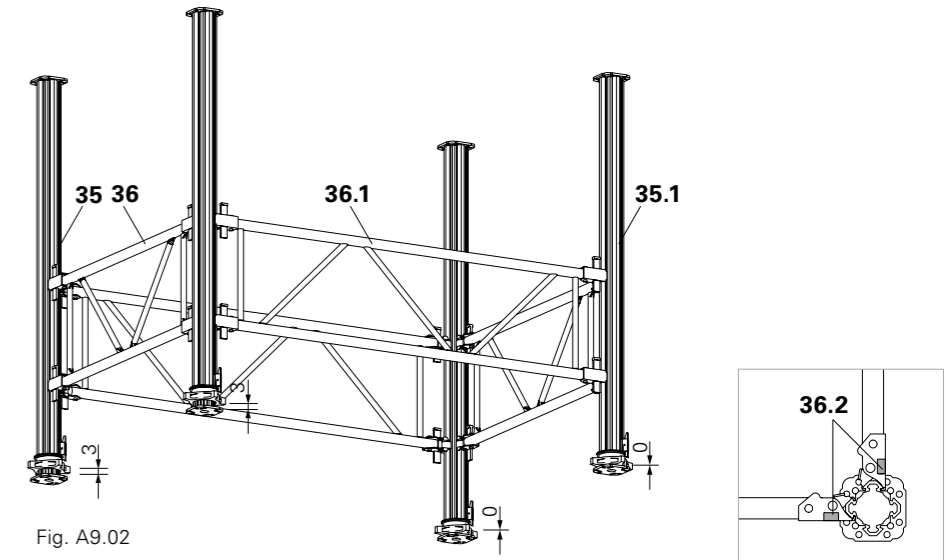

Fig. A9.02
1. Spindle out the MULTIPROP Props MP (35) 3 cm on a narrow side. The two props opposite (35.1) are not spindled out. As a result, the height difference resulting from the different installations of the main beam is compensated. The exact height adjustment takes place later.
2. Four MULTIPROP Props are placed in a 1.50 m x 2.25 m grid with the spindles (inner tube) downwards and formed into a base frame using MULTIPROP MRK 150 (36) and MRK 225 (36.1) Frames. (Fig. A9.02) Mount the frame at the same level above the slab. Locking wedges (36.2) are facing outwards.
3. Attach two Propheads SSK (6) on the extended props.